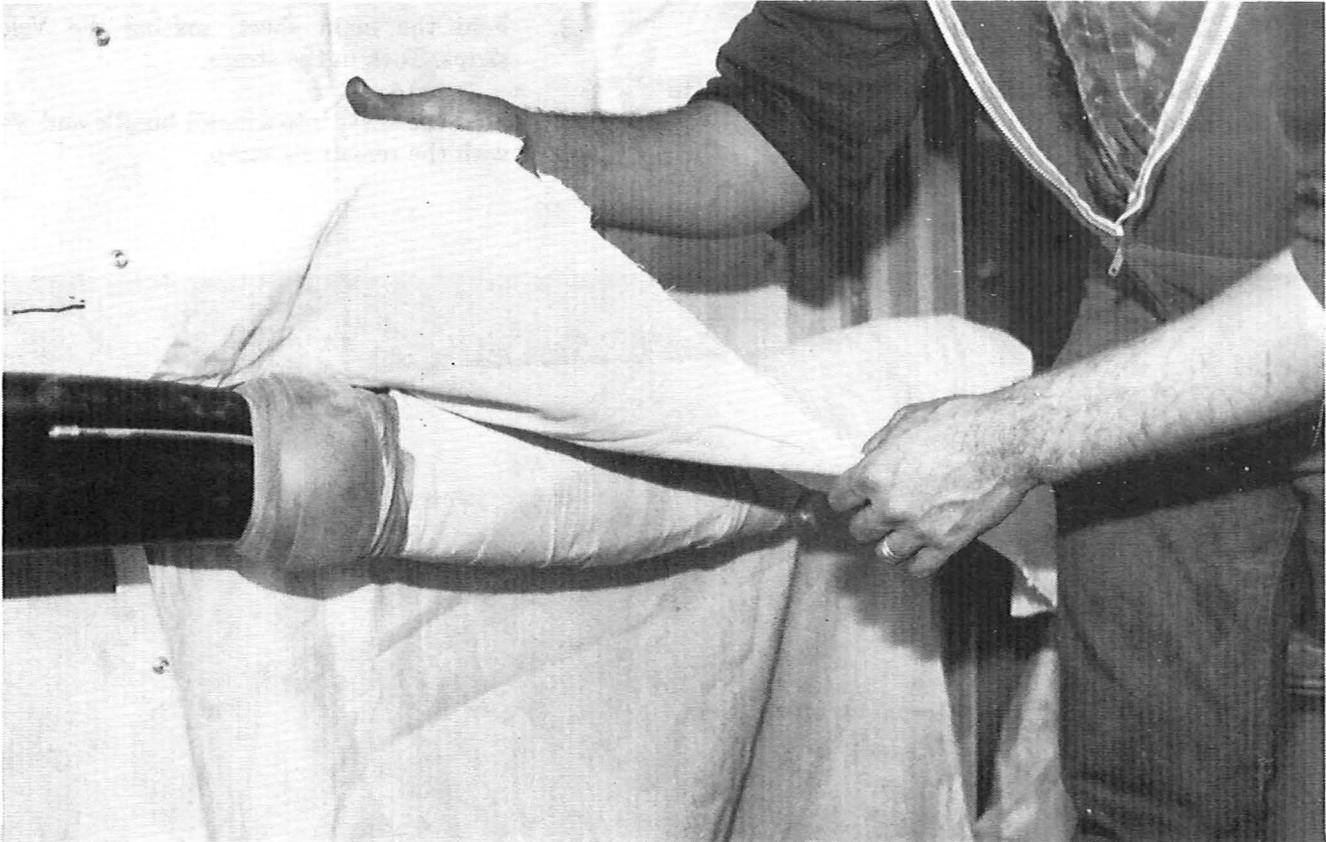

Fig. 12
3. Apply three wraps of 40-inch sheet muslin around the CR tape cover and collars followed by two layers of half-lapped 6-inch muslin (as shown in Fig. 12).